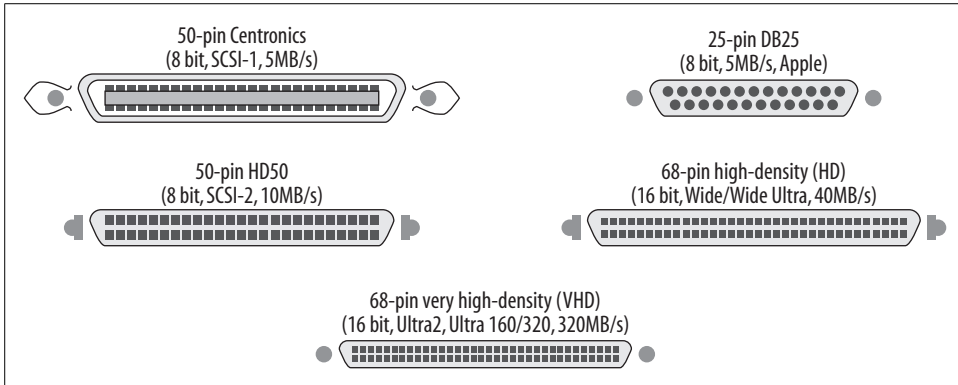

Figure 2-27. Most SCSI controllers use 68-pin high-density connectors for external connections. You may encounter some older connectors as well.
SCSI cables are much more confusing because SCSI cables have undergone more transformations than ATA cables. In most cases, you will be using a 68-pin ribbon cable for internal devices. Just make sure it's rated for the bandwidth you're using. Older external connectors have some variation (see Figure 2-27), but in most cases, 68-pin *high-density* (HD) connectors are used. However, newer 68-pin *very high-density* (VHD) connectors are making their way into the market. Decreasing the size of external connectors has made it easier for SCSI controller manufacturers to house multiple channels on a single card.